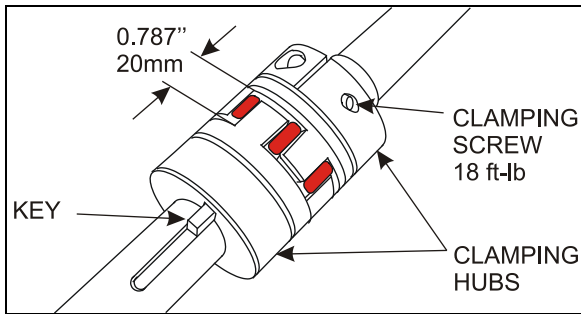

FIGURE 23: JAW COUPLING
8. Reconnect the clamping hubs with the spider. Leave a gap of 20mm (0.787inch) between each clamping hubs as shown on Figure 23. Use the motor hexagonal socket output shaft to align the keyways.